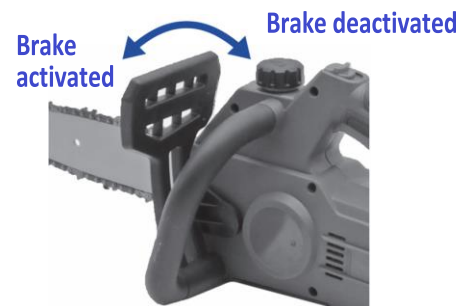

Fig. 3
- To install the battery pack, fully insert it into the battery compartment (15) until you hear a “click,” indicating it is securely in place.
- The emergency brake (12) is integrated with the front guard.
- This safety feature is activated by applying pressure to the front guard (12), typically when the operator's hand strikes the guard during an emergency, such as a kickback. Refer to Fig. 3 for illustration.